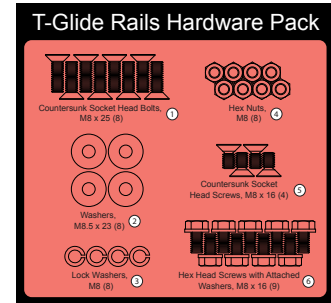

Fig. 1
1. Locate the front rail, the rear rail, and the T-Glide rails hardware pack (see Fig. 1). All of the hardware needed to install the rails is located on the T-Glide rails hardware pack and is shipped in the T-Glide fence box. In order to easily identify the hardware used in each of the following steps, the different pieces of hardware are numbered on the hardware pack and in the figures. If you are missing the T-Glide rails hardware pack, the T-Glide table hardware pack, or any of the other fence system components shown on page 1, call the SawStop Service Department at 503-682-6222.